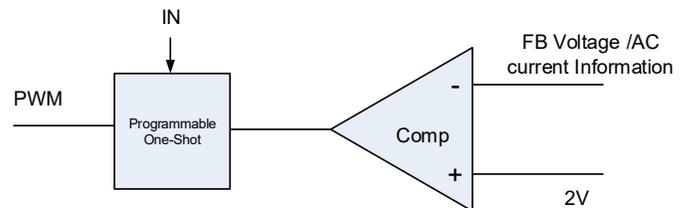

Figure 2. Simplified Control Schematic of AOZ2295AQI-03
The control algorithm of AOZ2295AQI-03 is constant-on-time PWM control with input feed-forward. The simplified control schematic is shown in Figure 2. The high-side switch on-time is determined solely by a one-shot whose pulse width is inversely proportional to input voltage (IN). The one-shot is triggered when the internal 2V is higher than the combined information of FB voltage and the AC current information of inductor, which is processed and obtained through the sensed low-side MOSFET current once it turns-on. The added AC current information can help the stability of constant-on time control even with pure ceramic output capacitors, which have very low ESR. The AC current information has no DC offset, which does not cause offset with output load change, which is fundamentally different from other  $V^2$  constant-on time control schemes.